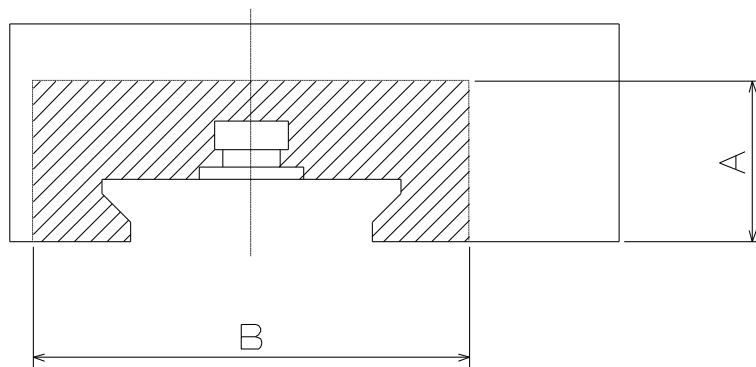

Fig.11
- The figure shows the forming inhibition area of soft jaw. (Refer to Fig.11) If this area is cut, the jaw is broken, thus resulting in a danger of scattering the jaw or work-piece.